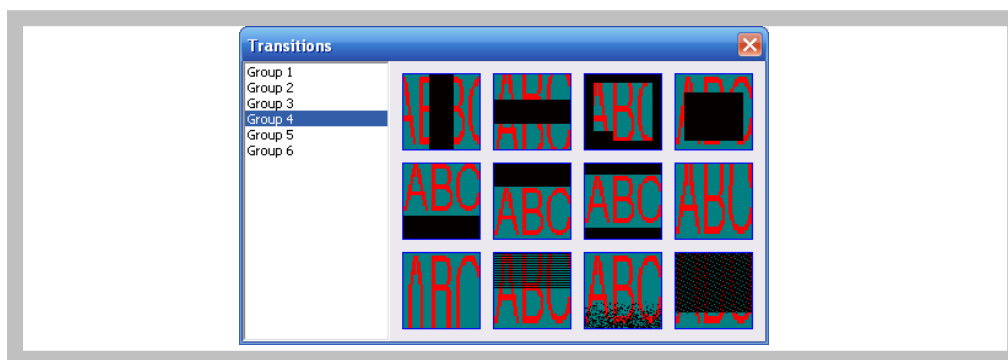

Figure22 Effect preview and select
More than 60 effects for text program, such as: snow fall, mosaic, slide zebra, fan open and etc. User can click the preview window to preview and select effects, as Figure22 shown.
pull-down menu to select or click the preview icon to virtual preview and select the text effect, as Figure22 shown. When select the “random” (the preview icon is “?”), the controller will play the text program in random effects.
- **Effect select:** Moving “speed” and “stay” time can be chosen. Click the effect pull-down menu to select or click the preview icon to virtual preview and select the text effect, as Figure22 shown. When select the “random” (the preview icon is “?”), the controller will play the text program in random effects.
More than 60 effects for text, office document and image file; such as: snow fall, mosaic, slide zebra, fan open and etc. User can click the preview window to preview and select effects, as Figure22 shown.
- **Effect selection:** Moving “speed” and “stay” time can be chosen. Click the effect pull-down menu to select or click the preview icon to virtual preview and select the text effect, as Figure22 shown. When select the “random” (the preview icon is “?”), the controller will play the text program in random effects.
- **Effect:** Moving “speed” and “stay” time can be chosen. Click the effect pull-down menu to select or click the preview icon to virtual preview and select the text effect, as Figure22 shown. When select the “random” (the preview icon is “?”), the controller will play the text program in random effects.